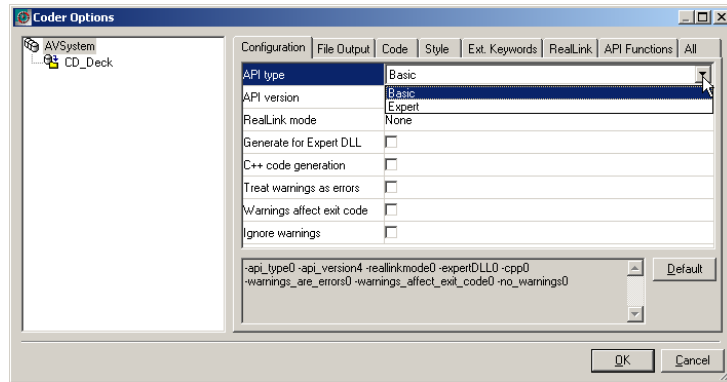

Figure 21: Coder Project Options dialog box, Configuration tab
An Options dialog box is displayed. See *Figure 21*, page 30.
- For some options there is a drop-down list box to the right of the option. Click in the list box and select the appropriate value. See *Figure 21*, page 30.
- Other options have check boxes. Click the option check box to select or deselect the option. See *Figure 21*, page 30.
The selected values are shown as command line options in the pane below the option list. See example in *Figure 21*, page 30.